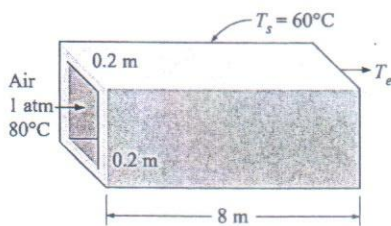

Figure: 1
4. Hot air at atmospheric pressure and 80°C enters an 8-m-long uninsulated square duct of cross section $0.2\text{ m} \times 0.2\text{ m}$ that passes through the attic of a house at a rate of $0.15\text{ m}^3/\text{s}$ (Fig. 1). The duct is observed to be nearly isothermal at 60°C . Determine the exit temperature of the air and the rate of heat loss from the duct to the attic space. [25]